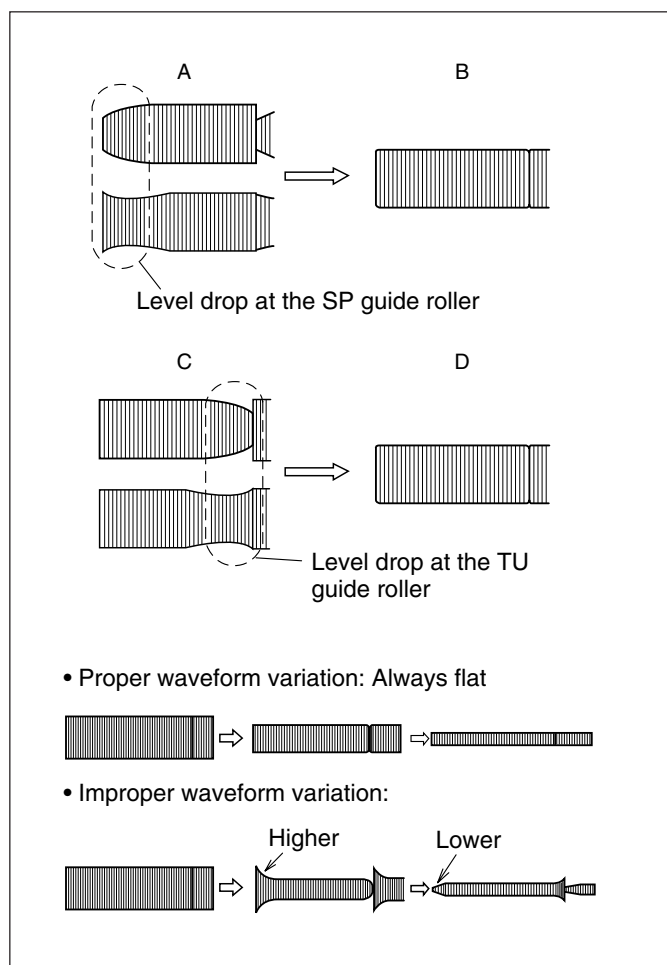

Fig. 2-5-3
- (6) During playback, press the tracking button (+, -) to reduce the FM waveform. If a drop in level is observed at the left-hand side as shown in Fig. 2-5-3, adjust the guide roller on the pole base assembly (S) using the roller driver so that a linear FM waveform is obtained. If a drop in level is observed at the right-hand side, rotate the guide roller on the pole base assembly (T) for adjustment. (Fig. 2-5-3)
- (7) After adjusting, tighten the set screw at the bottom of the pole base assembly. (Pay attention not to tighten excessively.)
- (8) After tightening the set screw, play back the alignment tape VFK1741 to check the FM waveform varies as shown in the optimum waveform changing examples.
- (9) When the alignment tape VFK1741 is played back after being ejected and reloaded or soon after the search reverse mode is operated, check that the FM waveform stabilizes within 2 sec. of appearing. If it takes more than 2 sec., check which side (right or left) of the FM waveform is unstable and check the following items.
- Check the guide roller (S) of the Pole base assembly
- Check the guide roller (T) of the Pole base assembly, the height of the guide arm assembly, and the tilt of A/C head
- (10) Perform the tape transport system check. (Refer to Section 2.5.6.)